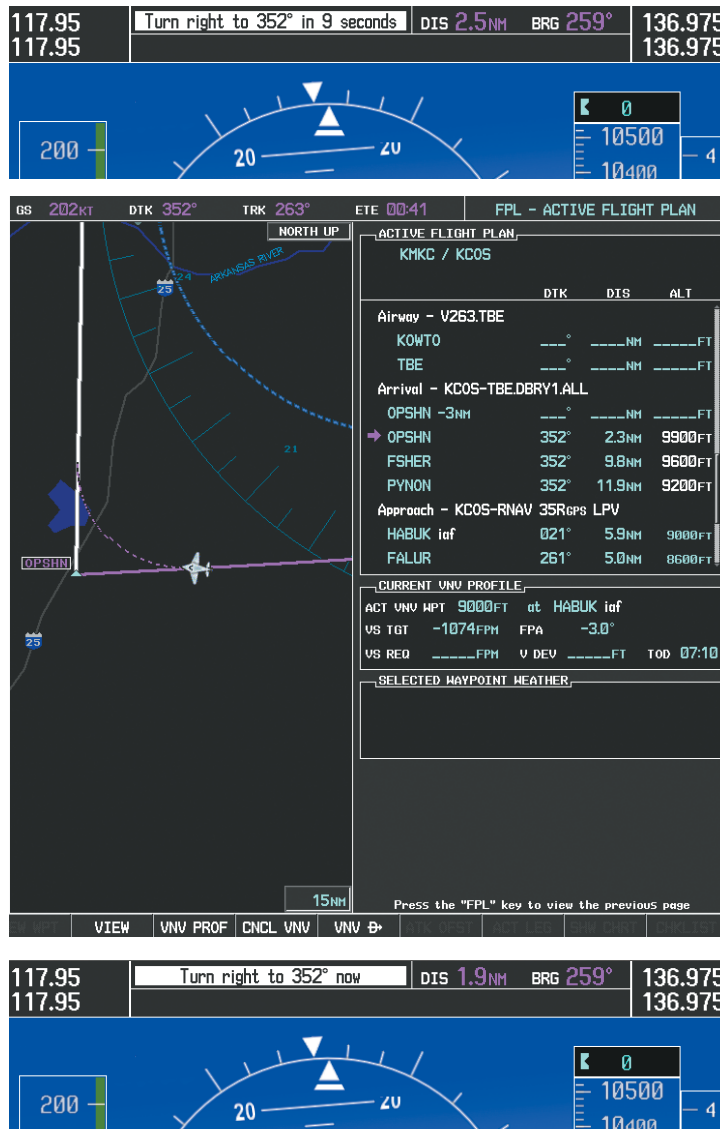

Figure 5-138 Turn to intercept OPSHN to FSHER Leg
- 18) The aircraft is approaching OPSHN. The upcoming turn and next heading are annunciated at the top left of the PFD as seen in Figure 5-138. Initiate the turn and maneuver the aircraft on a track through the turn radius to intercept the magenta line for the OPSHN to FSHER leg and center the CDI.